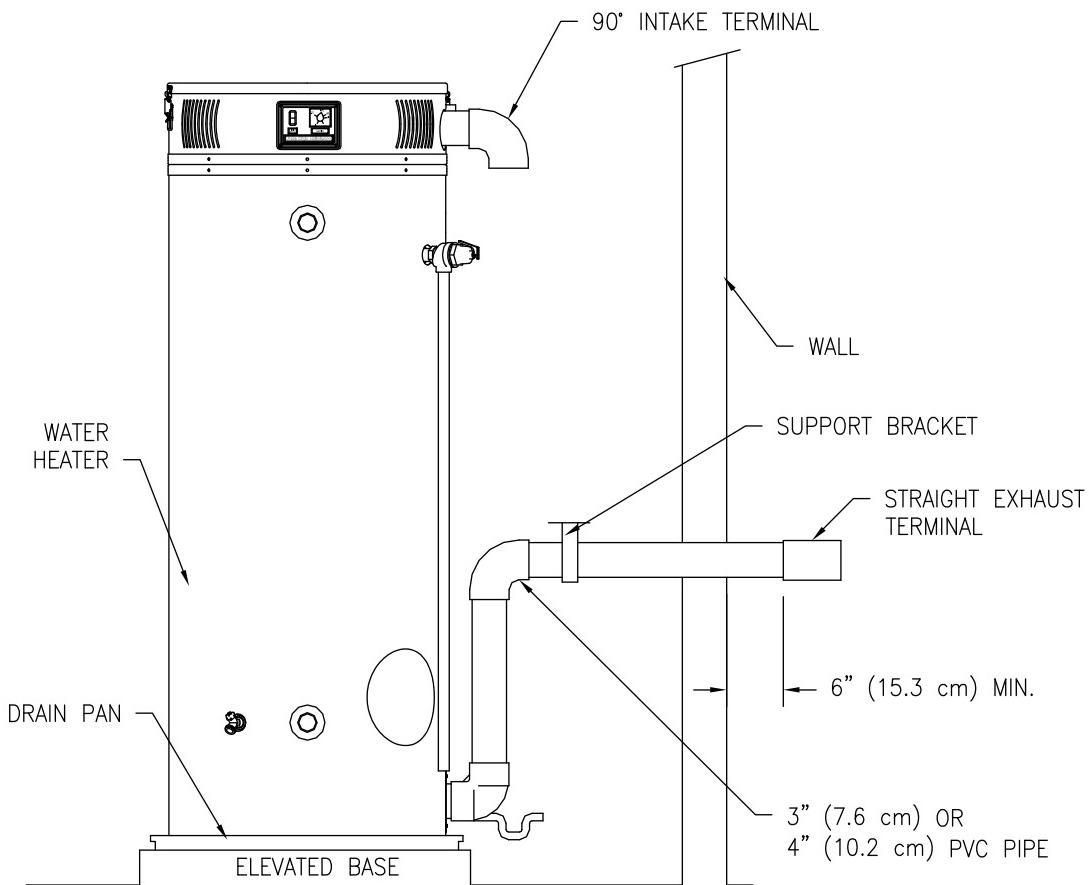

Figure 16. Typical Horizontal Power Vent System
2. Use the proper PVC cement or sealant to secure the exhaust vent terminal provided with the water heater to the plastic pipes. The distance between the back edge of the exhaust vent terminal and the exterior wall (see Figure 16) must 6 inches (15.2 cm). Use the proper cement and assembly procedures to secure the vent connector joints between the terminal and the blower outlet. Provide support brackets for every 3 feet (.9 m) of horizontal vent.